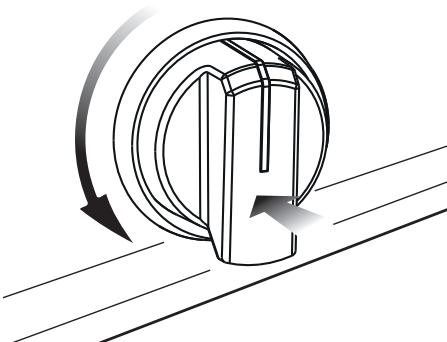

Fig. 2.2
- 1 – Push and turn the knob in a counterclockwise direction up to the **★HI** position (maximum rate), push in and hold the knob until the flame has been lit (fig. 2.2).
2. Push and turn the dial in a counter-clockwise direction up to the **★HI** position (maximum rate), push in and hold the dial until the flame has been lit (fig. 2.2)